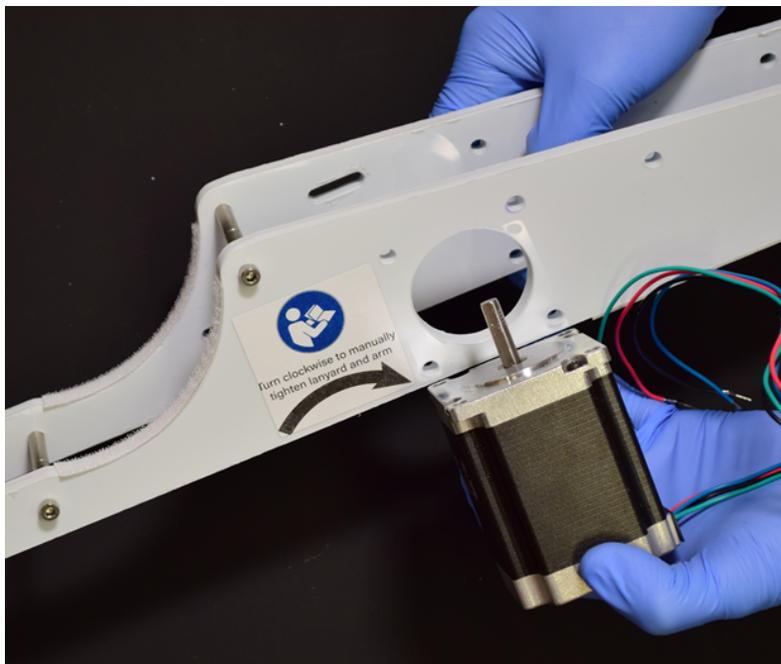

Figure 12
Step 18: Take the **stepper motor [Part 14]** and place its shaft into the motor hole of **Base 1 [Part 9]** (Fig. 12). Orient the motor such that the wire exit points towards the back of the base.